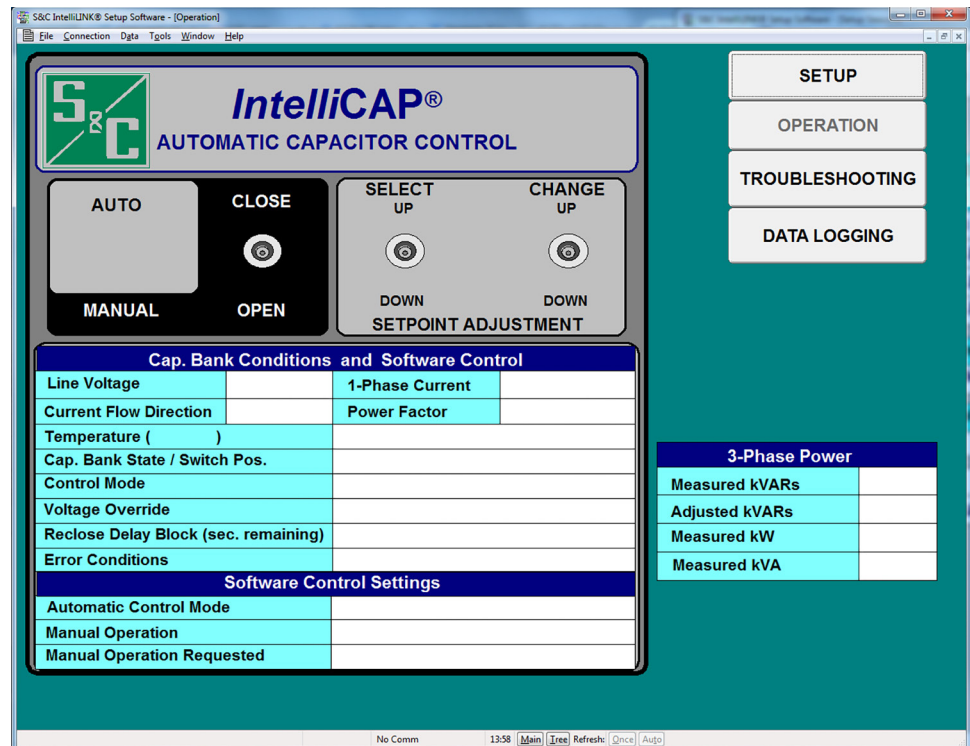
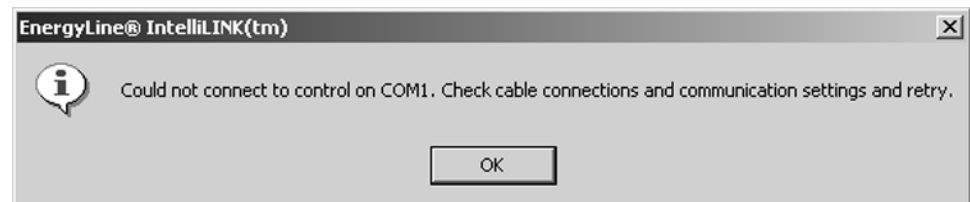

Figure 1. The *Operation* screen (var version).
Figure 2. This dialog box indicates the computer could not connect to control.
- STEP 2.** Connect the computer to the control. Plug the communication cable into the computer serial port. Attach the other end to the DB9 COMM PORT on the faceplate. To view the IntelliLink screens and online help without real-time data, start the IntelliLink software and connect to a virtual memory (VM) file.
- STEP 3.** Start the IntelliLink software by double-clicking on the IntelliLink icon in the EnergyLine folder at *Start>Programs>EnergyLine>IntelliLink*. The EnergyLine logo appears, and the software attempts to open communication with the control. The *Operation* screen opens when communication with the control is established. See Figure 1 on page 9. If IntelliLink software does not establish communication with a control, it tries all possible baud rates. Then, it displays the dialog box shown in Figure 2 on page 9.